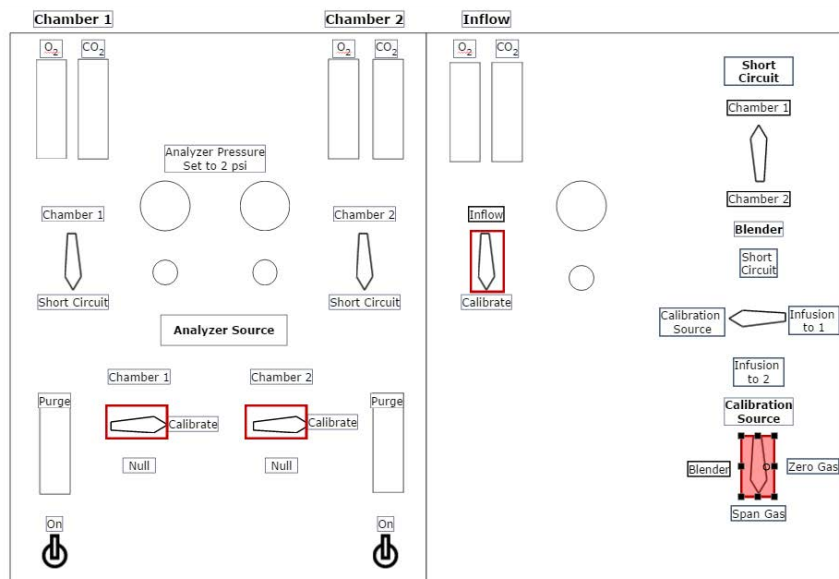

Figure 4. Panel layout for Span Gas Calibration (flip the highlighted Calibration Source valve from Span Gas to Zero Gas for span calibration)
2. Flip valves as those shown in Figure 4
4. Once the gas is flowing, watch the O₂ (A) and CO₂ (B) graphs until the values are steady. Once steady, press the "Set Zero" button (D).
5. After the values are stored, enter the calibration tank's gas concentrations in their respective entry boxes in the "Cal Gas" column (C) (i.e. if a calibration gas consisting of a blend of 21.02 %O₂ and 0 %CO₂ is flowing into the analyzers, 21.02 would be entered in the "Cal Gas" column for the O₂ analyzers and 0 would be entered for the CO₂ analyzers). Default tank values can be changed on the Preferences screen.
7. Select radio buttons (F) for each analyzer you would like to calibrate. Buttons will turn blue if calculations will be performed for that analyzer.
8. After zero and span values have been stored, press "Calculate" (G). New slopes and offsets are calculated, but not applied to analyzer gas values.
9. If slopes and offsets are acceptable, press "Apply" (H). New slopes and offsets are saved to the configuration file.
2. Set panel up as shown in Figure 4.
5. Once the gas is flowing, watch the O₂ (A) and CO₂ (B) graphs until the values are steady. Once steady, record the zero value.
1. Set up rack panel as shown in Figure 4.